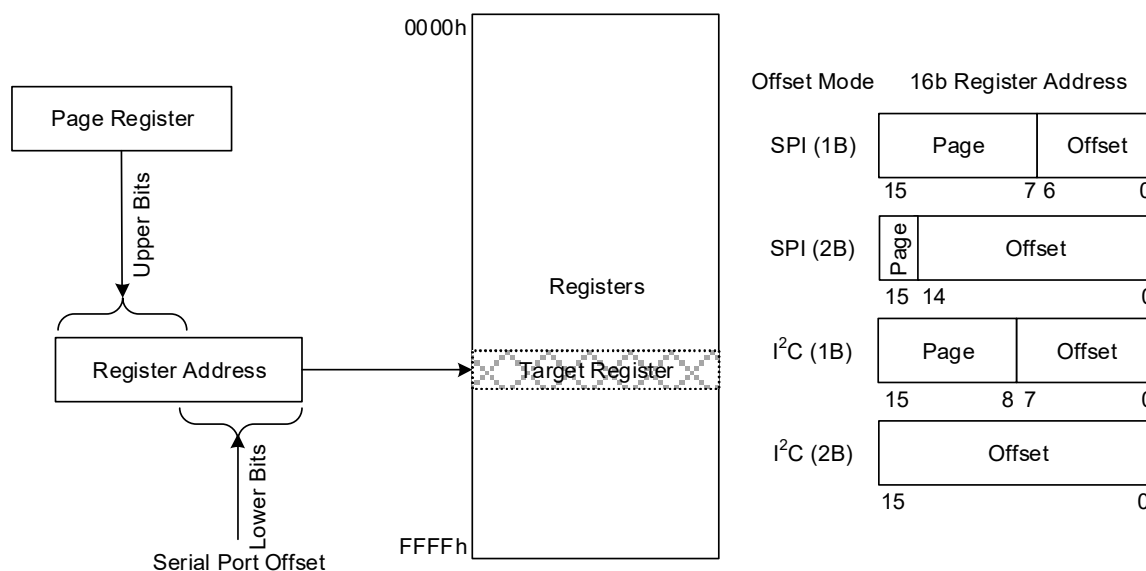

Figure 12. Register Addressing Modes Using Serial Port
You can choose to operate the serial port providing the full offset address within each burst, or to operate in a paged mode where part of the address offset is provided in each transaction and another part comes from an internal page register in each serial port. Figure 12 shows how page register and offset bytes from each serial transaction interact to address a register within the RC22514A.
The selection of 1-byte (1B) or 2-byte (2B) offset addressing must also be configured using the `ssi_addr_size` register field. These offsets are used in conjunction with the page register to access registers internal to the device (see Figure 12). Because the I²C protocol already includes a read/write bit with the Dev Addr, all bits of the 1B or 2B offset field can be used to address internal registers.
- 1-byte (1B) or 2-byte (2B) offset addressing (ssi_addr_size) (see Figure 12)